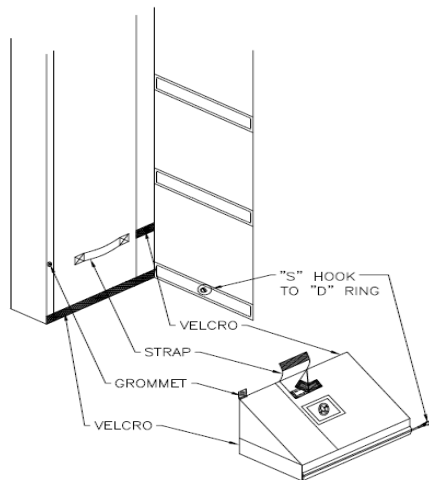

FIG. 11
- vii. Attach phantom draft pad to bottom inside of vertical pads. **FIRST**, attach the back face of the phantom draft pad to the inside face of the vertical pad. **SECOND**, attach the diagonal Velcro on the phantom draft pad to the inside face of the removable inward panel. **FINALLY**, pull strap on phantom draft pad through loop on inside face of vertical pad and Velcro back onto phantom draft pad top face (**Fig. 11**).